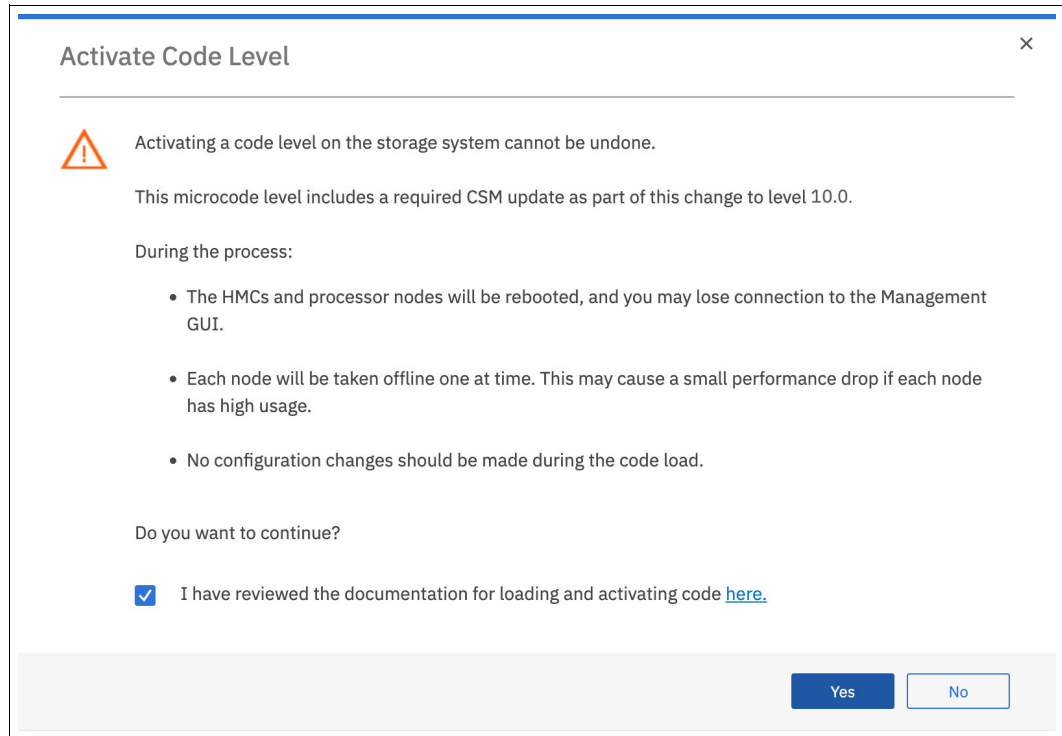

Figure 11-10 Code Activation Message
5. To activate the code, select **Health Check and Activate**. A new attention message appears in the Storage Manager GUI and notifies you about the actions that are about to be performed, as shown in Figure 11-10 on page 397. To start, click **Yes**.